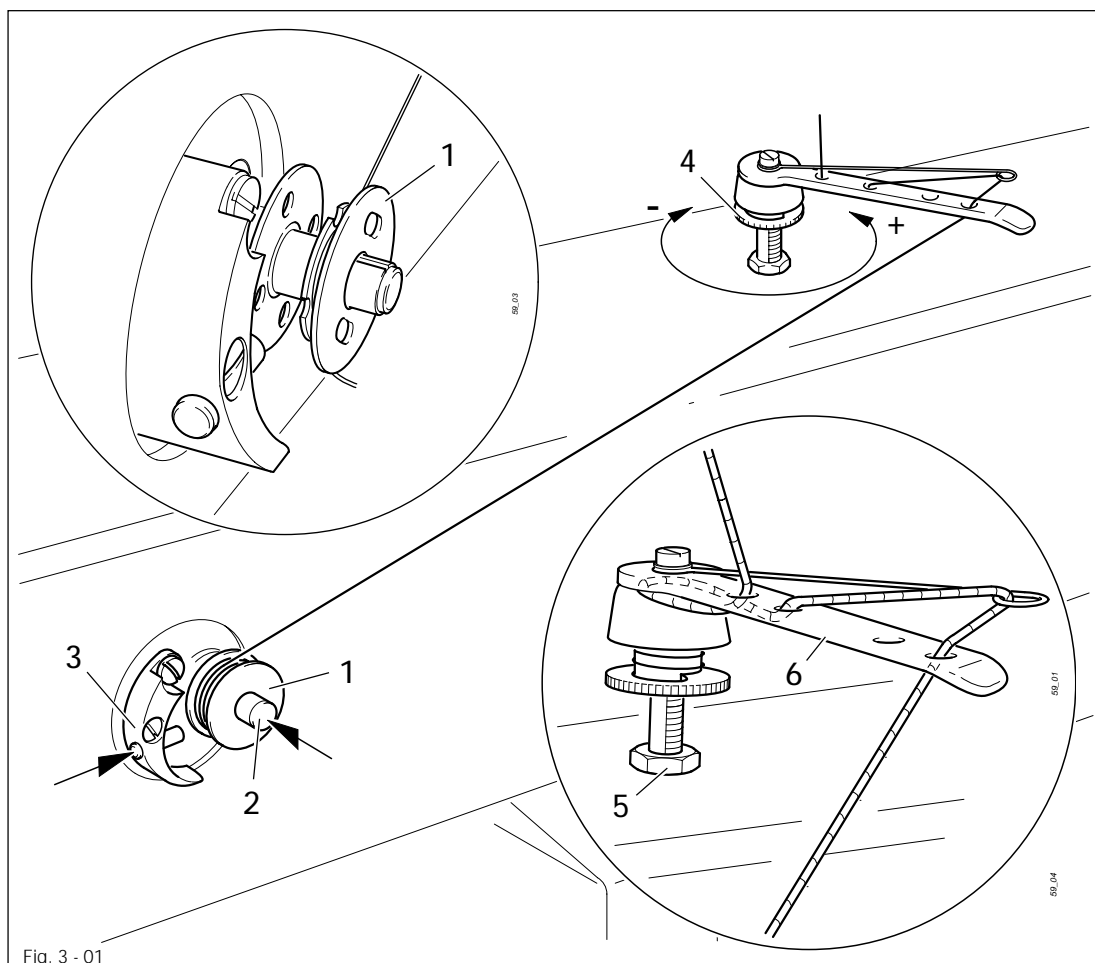

Fig. 3 - 01
- Insert the thread as shown in Fig. 3 - 01 and wind the thread a few times clockwise around bobbin 1.
- Insert bobbin 1 in the bobbin case 2 as shown in Fig. 3 - 02.
- Guide the thread through the slit and below the spring as shown in Fig. 3 - 03.